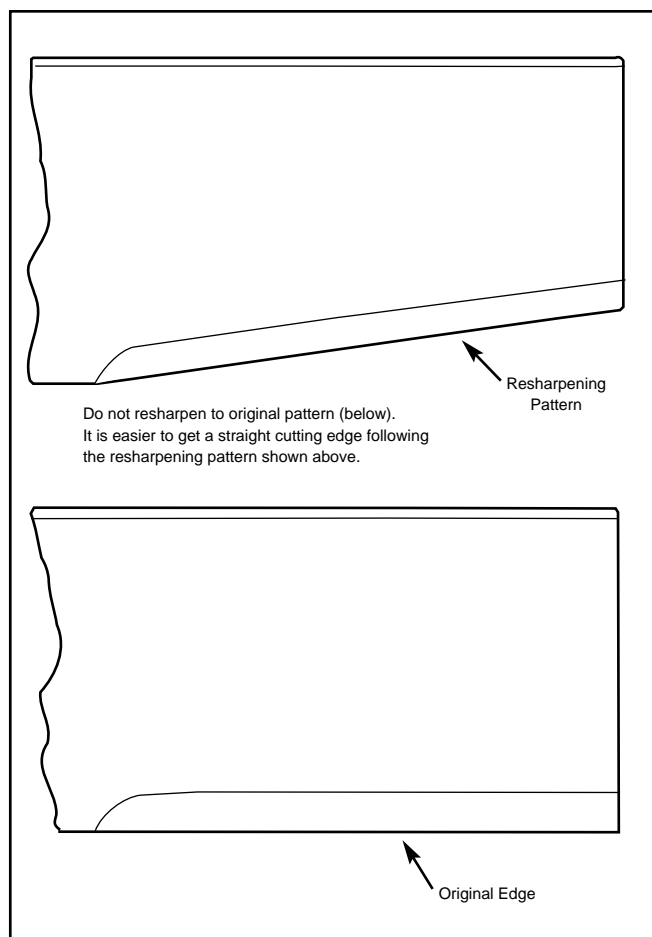

Figure 4-2
3. Sharpen blades on a grinder. Touch up sharpening may be done with a file (Fig. 4-2).